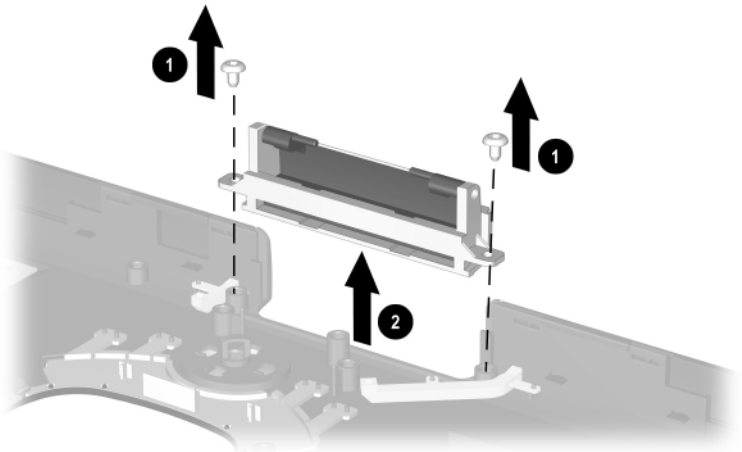

Figure 5-36. Removing the Display Release Assembly
4. Remove the two TM2.5 × 5.0 screws ❶ that secure the display release assembly to the palm rest (Figure 5-36).
5. Remove the assembly ❷ from the palm rest.